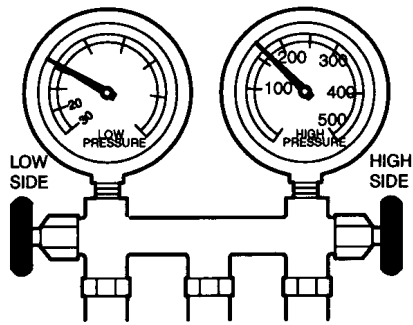

Figure 25 Extremely Low Suction Pressure-Normal to Low Discharge Pressure
2. **Extremely low suction pressure-Normal to low discharge pressure** (Figure 25).